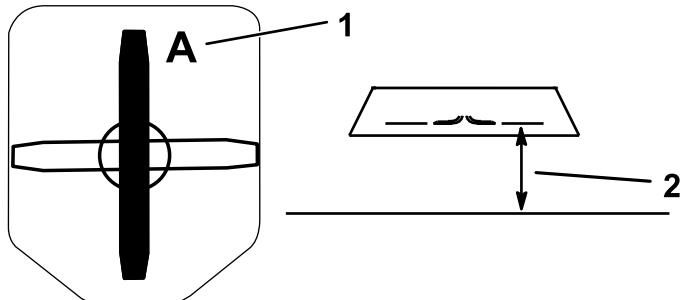

Figure 37
2. Measure from a level surface to the cutting edge, position A, of the blade (Figure 37).